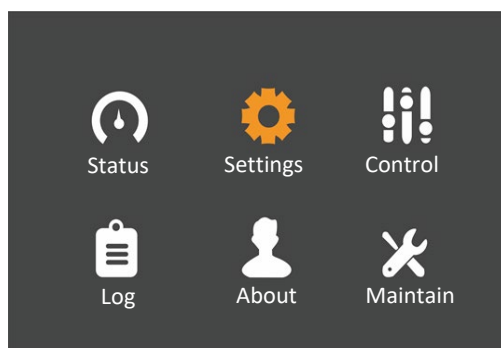

Figure 3-16 Main menu
1. After powering on the UPS, at the main menu screen, press the **▲** or **▼** key to move the cursor to select 'Settings'. See Figure 3-16.